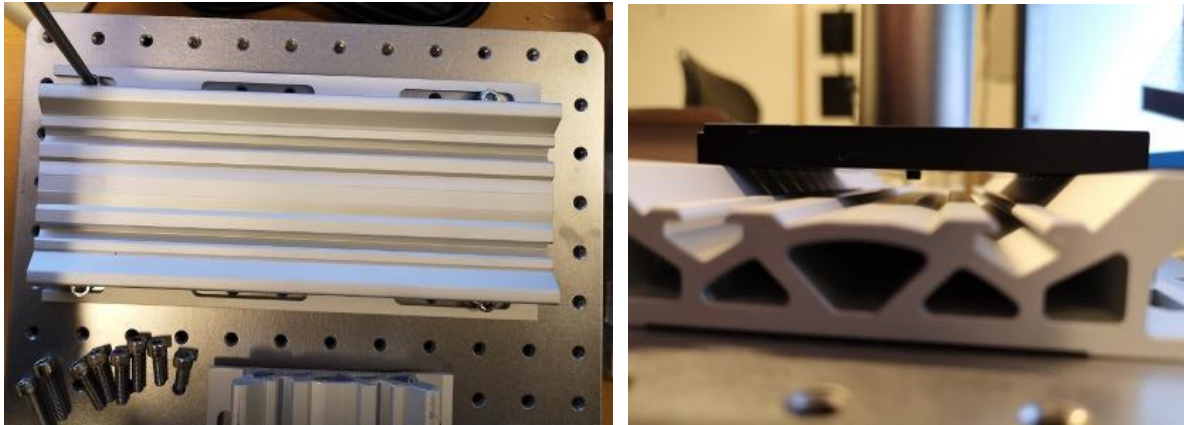

Figure 22: Mount of (A) construction rail to the breadboard; (B) rail carriage and mounting post on top of each previous components.
**Step1.** Fix the construction rail (item 56) to the breadboard (item 54) with four M6x12 mm cap screws (see Fig.22-A) and add the rail carriage on top (see Fig.22-B).